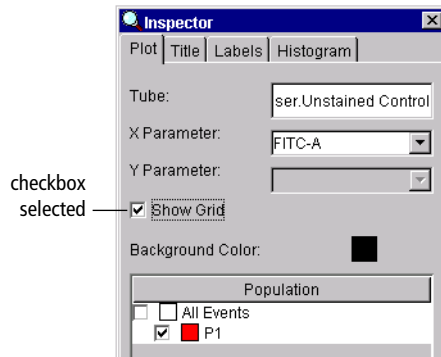

Figure 4-8 Plot Inspector for fluorescent plots
- 7 In the Plot Inspector, select the Show Grid checkbox (Figure 4-8).